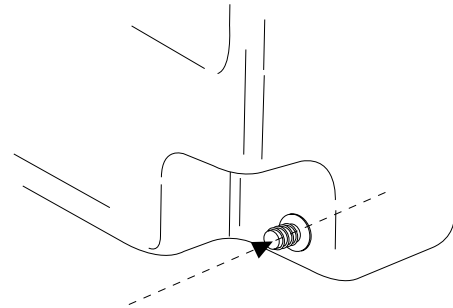

Fig. 2
1. Make a hole in the tank inside the spout (Fig.2).